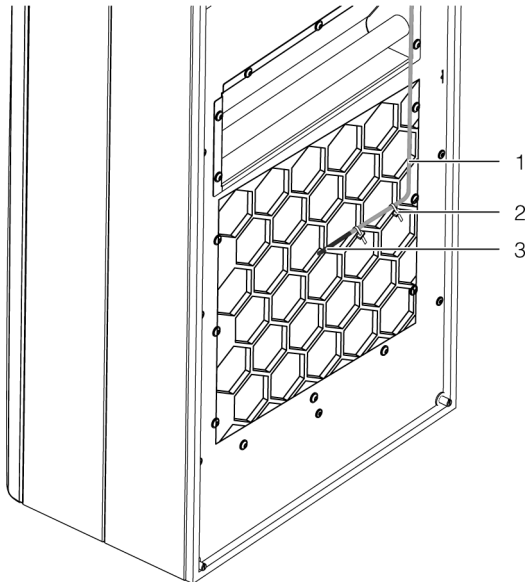

Fig. 43: Temperature sensor in front of cold air outlet (example illustration)
■ Attach the temperature sensor in front of the cold air outlet from the cooling unit, in the centre (fig. 43).